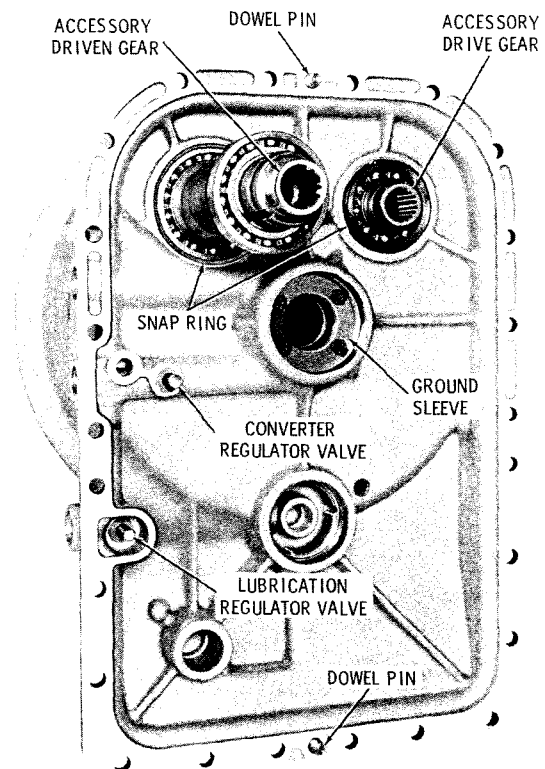

Fig. 6-4. Torque converter housing assembly—rear view
(5) At the rear of the housing (fig. 6-4), remove the snapping from the accessory driven gear bearing. Tap the accessory driven gear forward and remove it and the attached parts from the housing.
(6) Press bearing 12 (B, foldout 6) from gear 2. Remove snapping 11 and bearing 10.
(7) On transmissions equipped with an accessory drive gear, remove the snapping from the accessory drive bearing (fig. 6-4). Tap the accessory drive gear forward and remove it and the attached parts from the housing.
(8) Remove snapping 7 (B, foldout 6) and bearing 6 from gear 1.
(9) Remove four bolts 14 which retain the ground sleeve in the converter housing.